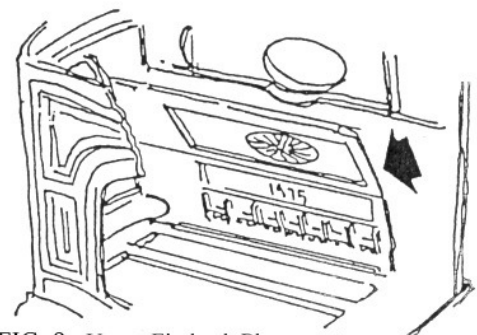

FIG. 9 Upper Fireback Placement
- Set the upper fireback in place making sure all tabs overlap those on the lower fireback. Do not cement between the upper and lower firebacks. Tap the upper fireback into place against the left end. (Fig. 9).